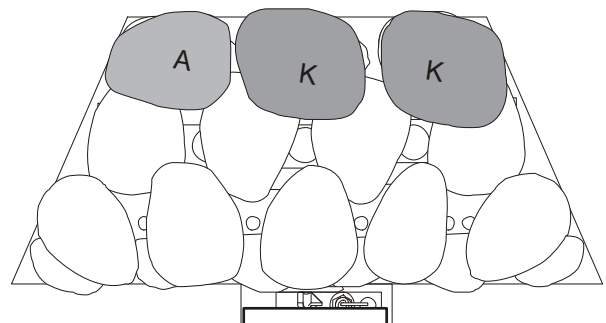
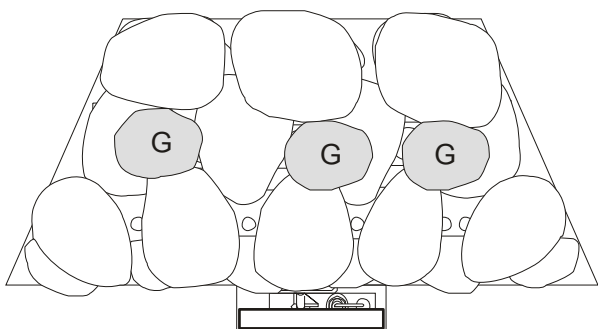

Figure 14
Figure 15
4. Place pebbles **A, G & K** in **Figure 14** and **Figure 15** to complete the fuel effect layout.